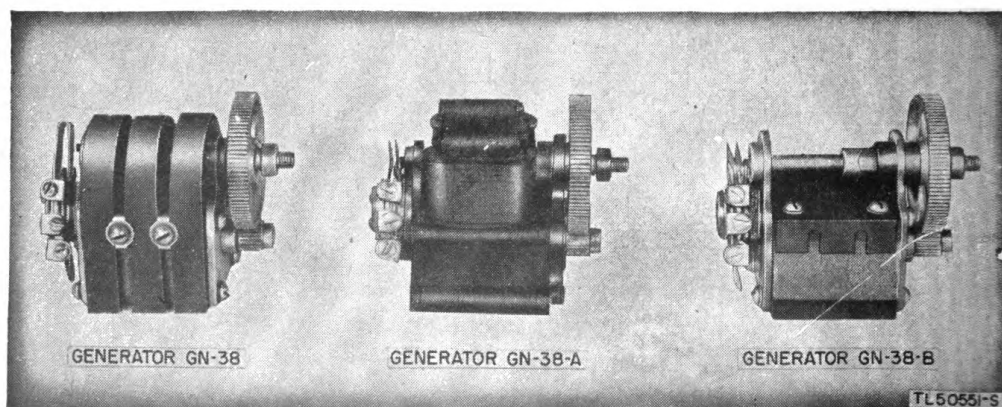

Figure 24. Generators GN-38, GN-38-A, and GN-38-B
b. **GENERATOR (FIG. 24).** Generator GN-38 has three small cobalt steel permanent magnets arranged in two pole faces about an armature. Generator GN-38-A has a rotating magnet with stationary coils. Generator GN-38-B has two stationary magnets and two pole pieces arranged alternately about an armature. The generator switch consists of spring contacts which in normal position connect the ringer across the line, but which upon rotation of the crank disconnect the ringer and place the output of the generator across the line. The crank handle folds into the metal-faced recess on the right side of the case.